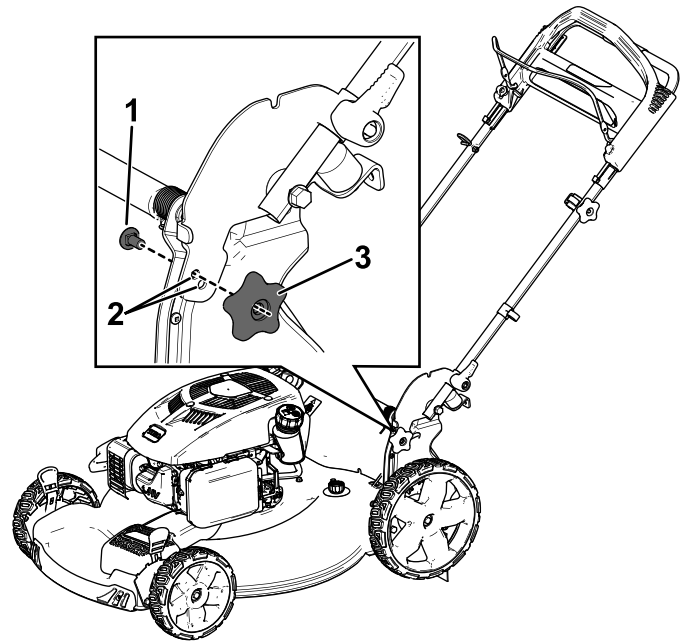

**Figure 13**
2. Remove the dipstick by rotating the cap counterclockwise and pulling it out (Figure 13).
5. Read the oil level on the dipstick (Figure 13).